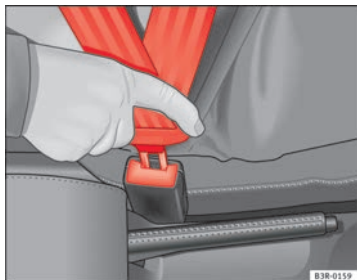

Fig. 11 Belt buckle and latch plate of seat belt
- Insert the latch into the buckle for the appropriate seat and push it down until it is securely locked with a click ⇒ fig. 11.